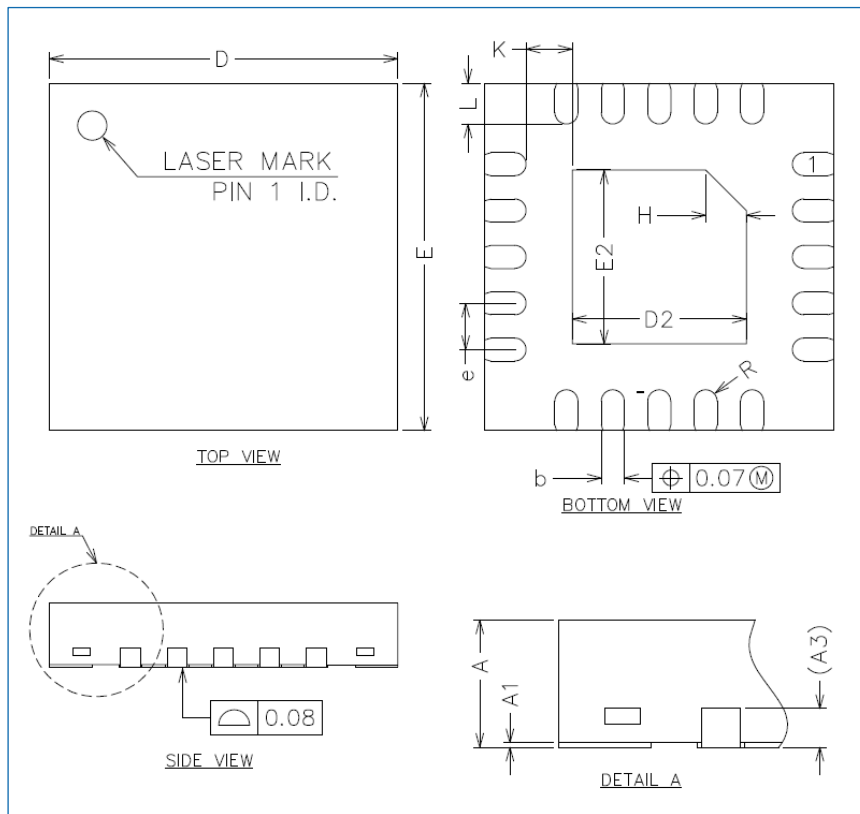

Figure 7-3 QFN20 package 3 outline
- 3 mm × 3 mm, 0.4 mm pitch (0.55 mm thick) package (as shown in Figure 7-3): HK32F030MF4S6